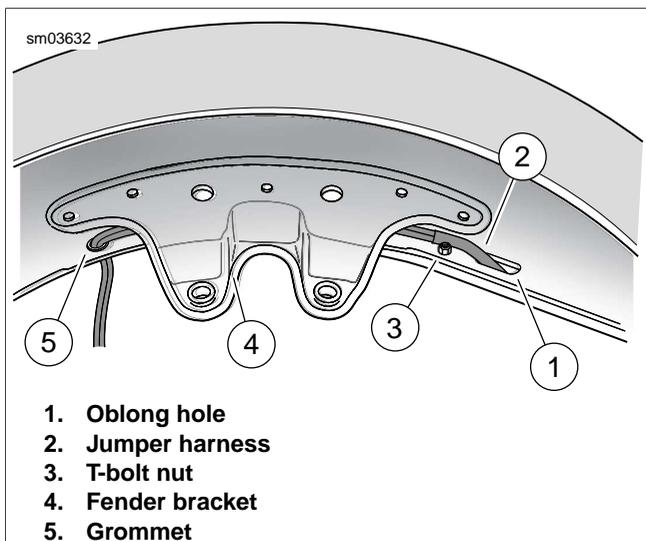

Figure 8-41. Left Side Front Fender Well
9. Reaching under left side of fender, route wires of the jumper harness rearward between tee bolt nut and fender bracket and then beneath fender bracket to grommet. See Figure 8-41.